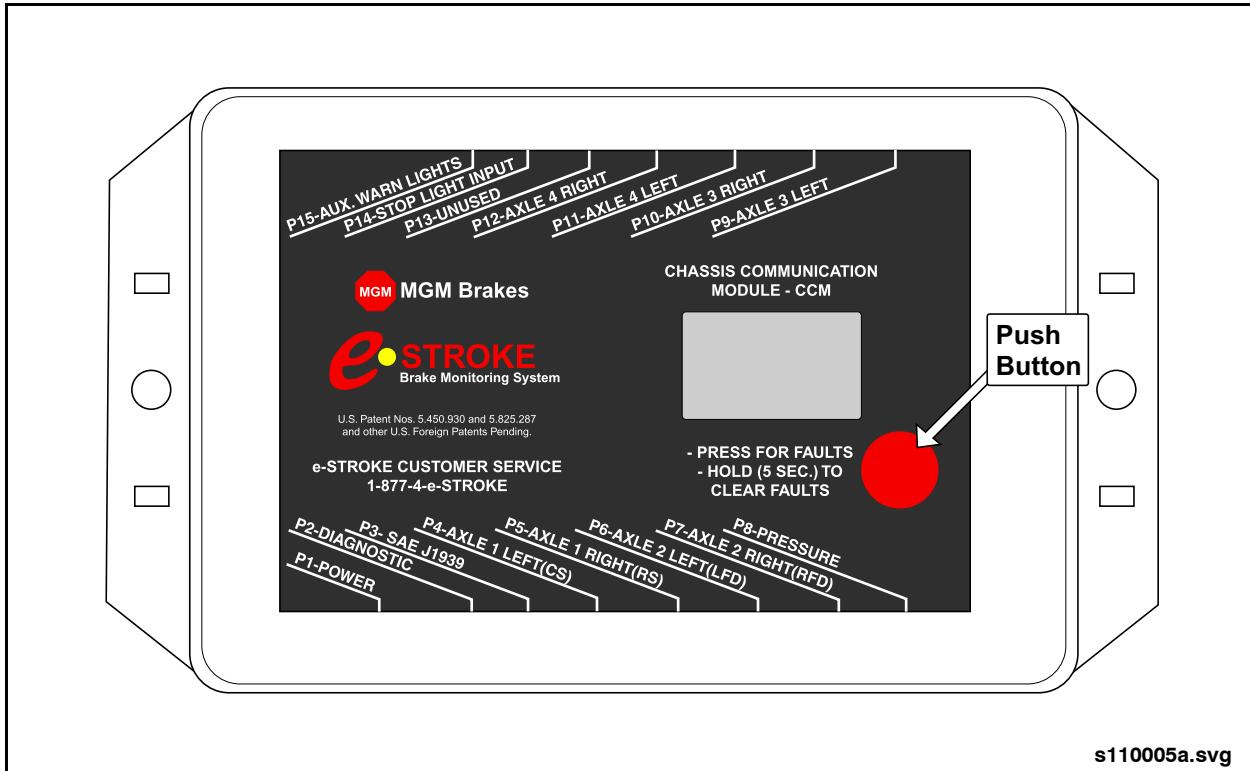

Fig. 9-29: E-Stroke Chassis Communication Module
- A Chassis Communication Module (CCM) located on the forward face of the street-side wheelhousing. See "Fig. 9-29: E-Stroke Chassis Communication Module" on page 55.